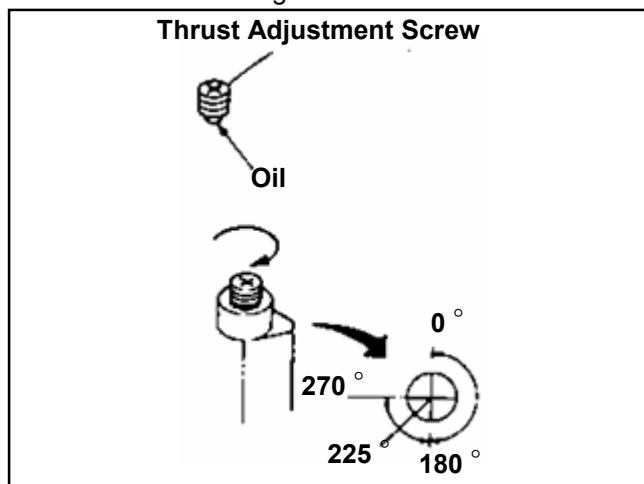

Figure 5-16-2
5. Turn the Thrust Adjustment Screw further from that point (the point Capstan Rotor just starts turning) about 225 degrees clockwise as shown in Figure 5-16-2.